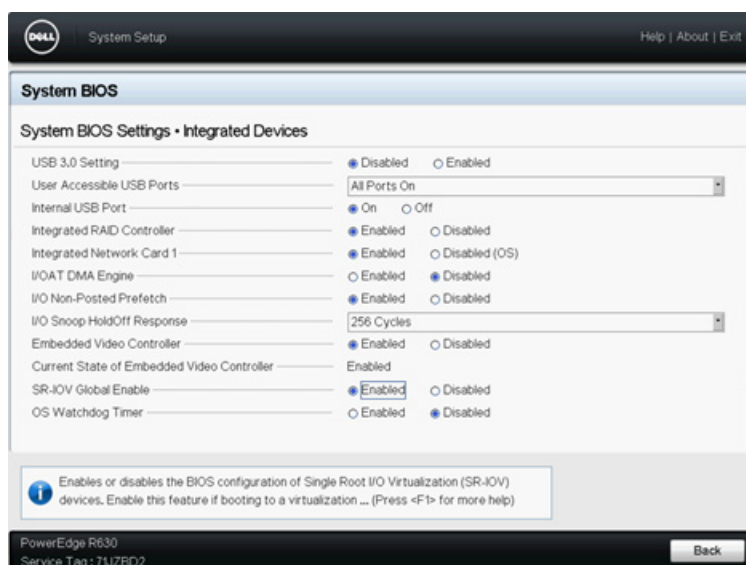

Figure 11-1. System Setup for SR-IOV: Integrated Devices
3. On the Integrated Devices page (Figure 11-1):
3. On the System Integrated Devices page (see Figure 11-1 on page 199):